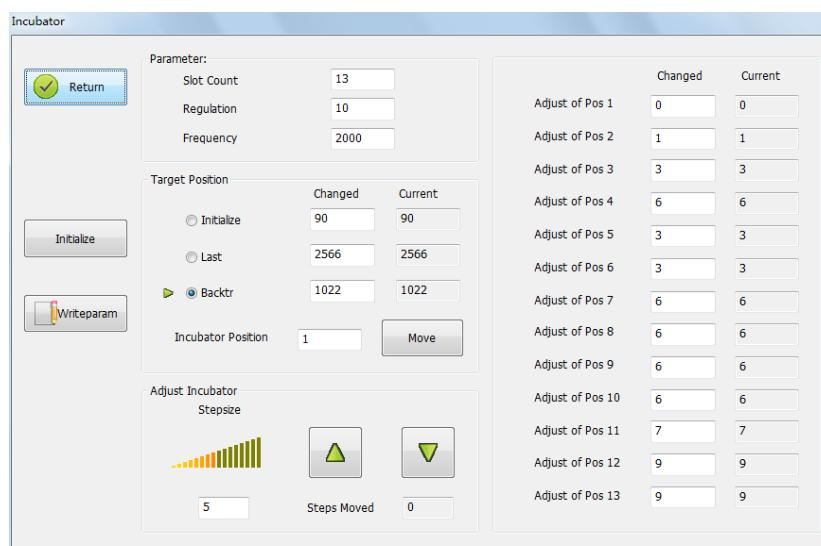

Figure A.7-1 **[Incubator]** Dialog
1. Click **<Initialize>** in **[Maglumi Service]** interface. Upon completion, click **<Incubator>** to open **[Incubator]** dialog. Select **Backtr** in **Target Position** (Figure A.7-1). Then click **<Return>** button to return to **[Maglumi Service]** interface.